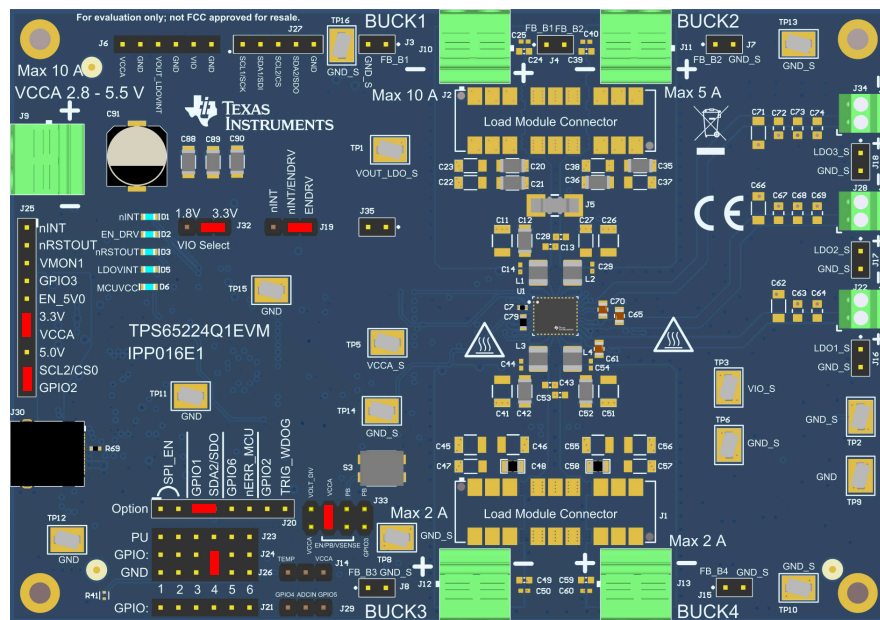

Figure 2-1. EVM with Default Jumper Options Shown in Red (Top View)
1. Connect the proper jumpers. For the default jumper connections see Figure 2-1.
Terminal J9, labeled VCCA in Figure 2-1 can accept wire gauges up to 14 AWG. The voltage supplied must be within the input range of the device, 2.8 V to 5.5 V. The power supply providing the input to VCCA is required to supply 135% of the output power. Once power has been supplied to VCCA, the VCCA can be connected to the EN/PB/VSENSE pin by placing jumper in J33 to power up the rails. Please refer to Table 2-6 for the correct jumper connection.